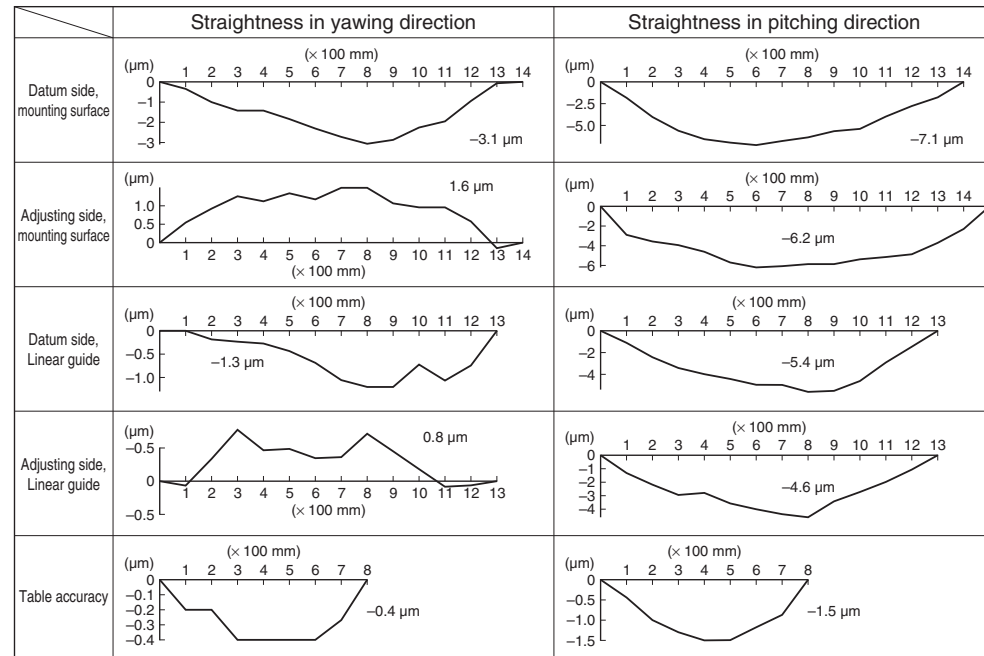

Fig. 10.9 Straightness of the table equipped with linear guide
- Fig. 10.9** shows an actually measured straightness of the table which uses NSK linear guides. In this case, the final straightness of the table is about 1/5 of the straightness of the mounting surface.